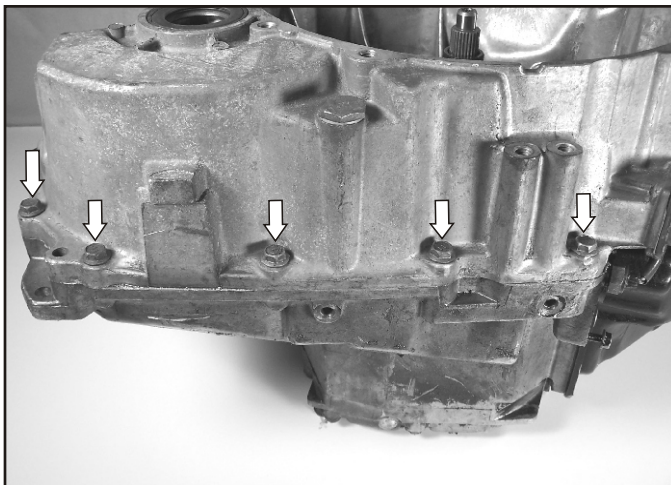

Figure 47
7. Stand the transmission up on its back cover and remove the remaining 5, 12mm headed bellhousing to main case bolts as shown in Figure 47. **Note: Bolts are 30mm long.**